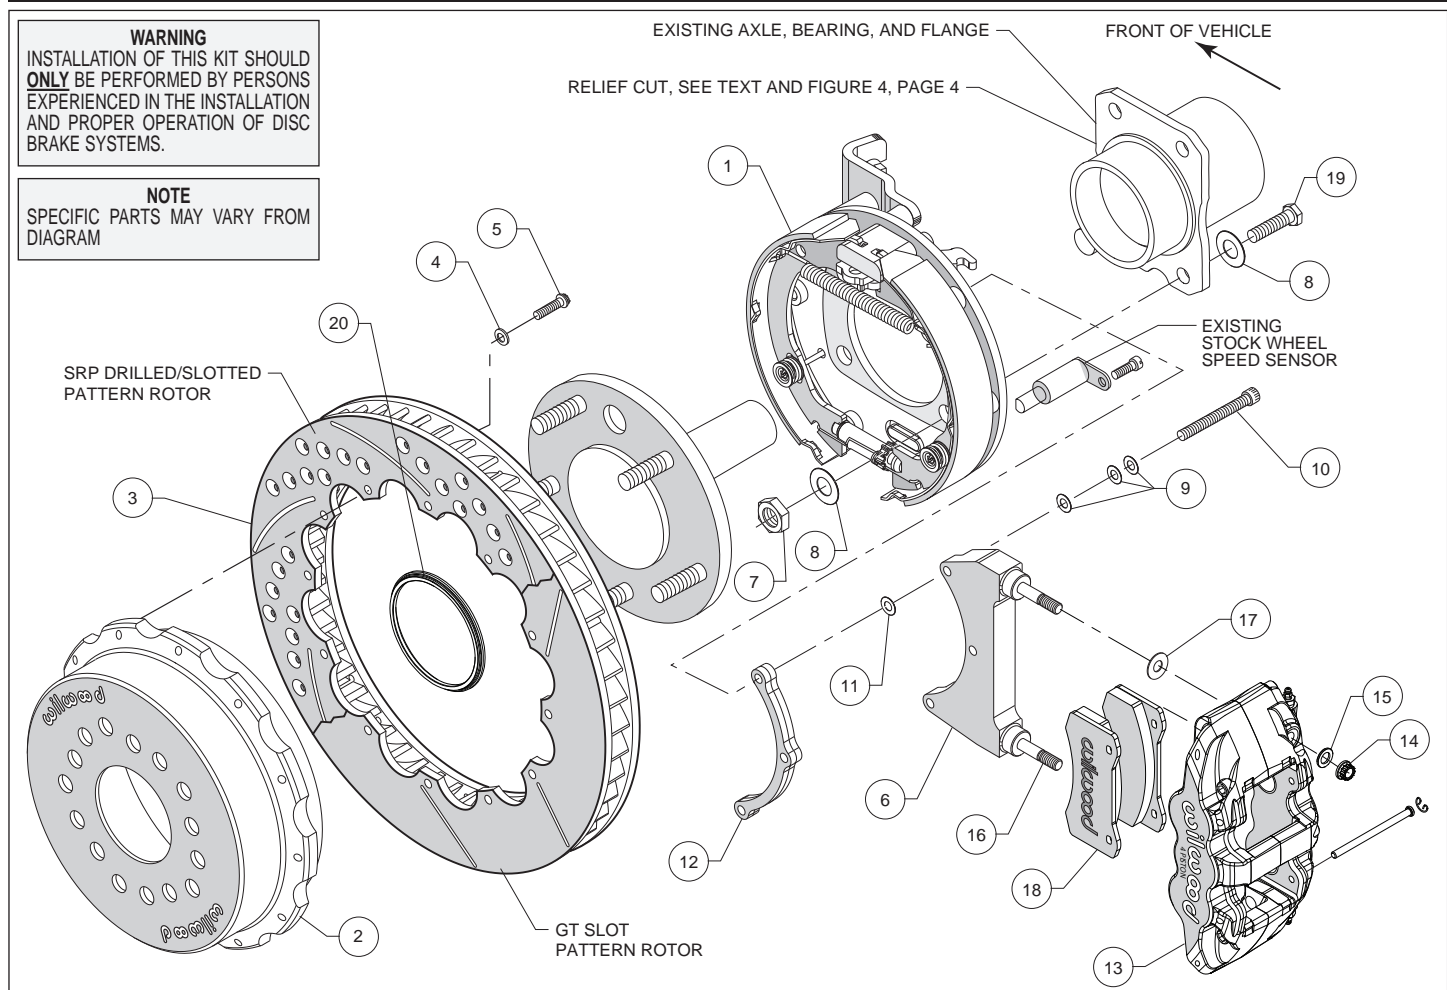

Figure 1. Typical Installation Configuration
- Slide the rotor registration adapter (20) onto the axle register on the axle flange with the smaller O.D. facing toward the rotor/hat (2). Align the correct hole pattern in the hat with the stud pattern on the axle flange. **NOTE:** Some OEM and aftermarket axles come with stud sizes larger than 0.50" diameter. Verify stud size and have a qualified machine shop drill the hats to the correct size, if necessary. Slide the hat/rotor assembly (2 and 3) over the wheel studs covering the bracket kit assembly (1) and against the axle flange face. Check to be sure the hat seats squarely against the hub. Install three lug nuts (finger tighten) to keep the rotor/hat assembly in place while continuing with the installation.
- NOTE:** Please reference the caution statement at the beginning of the assembly instructions. The caliper mounting bracket assembly (6) should be installed first with clean, dry threads on the mounting bolts (10). Install the bracket from the rear side of the bracket kit assembly (1) by sliding bolt (10) through three flat washers (9), bracket (6), shim washer (11) and finally through the spacer (12), see Figure 1. **NOTE:** End of bolt should not exceed inside face of insert. The bracket must tighten squarely against the back side of the bracket kit assembly (1). Inspect for interference from casting irregularities, machining ridges, burrs, etc. Use one thin shim (11) between the bracket (6) and spacer (12) during initial trial fitting.
- Lubricate caliper mounting studs and nuts with lightweight oil. Install one washer (17) over each pre-installed stud (16) on the radial mount bracket (6). Slide the caliper (13) in place over the studs and rotor, then install the washer (15) and lock nut (14) to hold the caliper in place. The caliper bleed screws should be pointing up. Snug the lock nuts (14) and check that the rotor (3) is centered in the caliper (13). Add or subtract .015" shims (11) as necessary between the caliper mounting bracket (6) and the spacer (12) to center the caliper (13).
- Remove the two pad retaining pins from the caliper (13) by carefully popping out the pin retaining clips and sliding out the pins. Insert the brake pads (18) into the caliper from the bottom, Figure 1. With the friction material facing the rotor, secure the brake pads in place with the pad retaining pins and clips. Reinstall the caliper onto the caliper mounting bracket and temporarily tighten the lock nuts. Check that the top of the brake pad is flush with the outside diameter of the rotor. If not, adjust by adding or subtracting shims (17) between the caliper and the bracket.
- Adjust the parking brake shoes outward (using a drum shoe adjustment tool available at your local auto parts store) while spinning the hat (2) until a slight drag is felt against the hat/drum. Remove the lug nuts that were holding the hat/rotor in place. Install the wheel and lug nuts. Check to see that the wheel rotates freely without interference.
- Once all clearances have been checked, remove the wheel, caliper, hat/rotor from the bracket kit assembly (1). Secure the caliper mounting bracket (6) to the bracket kit assembly (1) using red *Loctite*® 271. Torque bolts (10) to 180 **in-lb**. Reinstall the hat/rotor assembly and again use lug nuts to hold it in place. Reinstall the caliper, torque the caliper nuts (14) to 47 **ft-lb**.